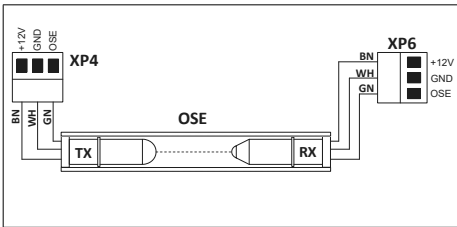

Figure 6 – Optoelectronic safety edge (OSE)
- DIP 1**    OFF – OSE optoelectronic safety edge (Figure 6, 8, 9)
- DIP 2**    OFF – OSE single-beam safety edge (Figure 6, 8)